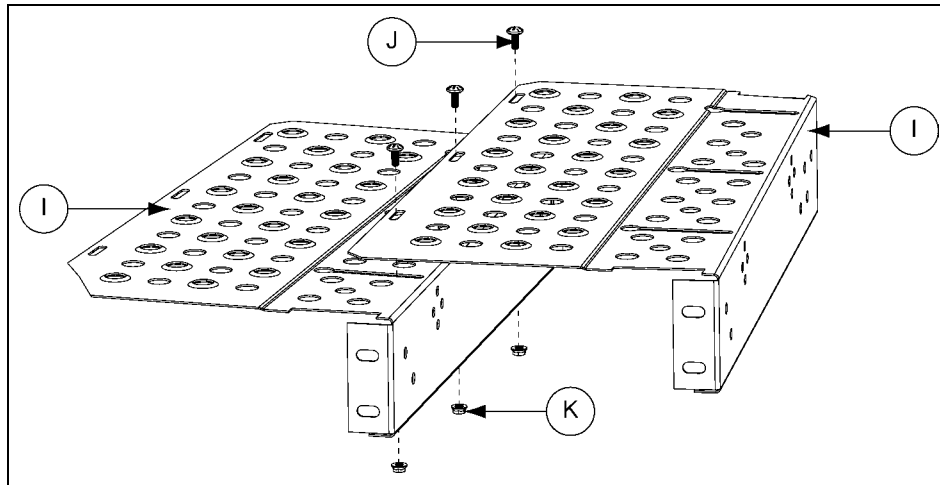

Figure 5D
3. Attach the planks (I) together using truss head bolt (J) and nut (K). Do not tighten yet to allow for adjustment. (See Figure 5D.)